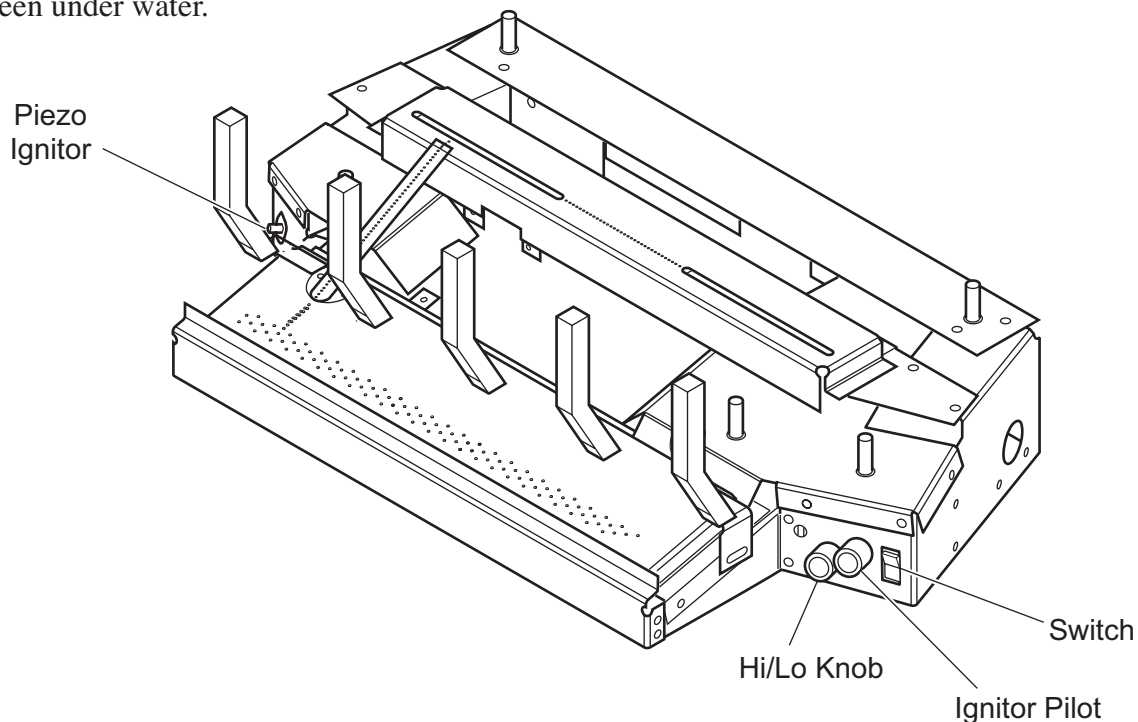

Figure 43 - Location of Piezo Ignitor, Control Knobs and Switch on Milli-volt, Thermostat, and Manual Units
4. See *Figure 43, page 32* for the location of the piezo ignitor and control knob. Push in gas control knob slightly and turn control knob clockwise  to the OFF position.